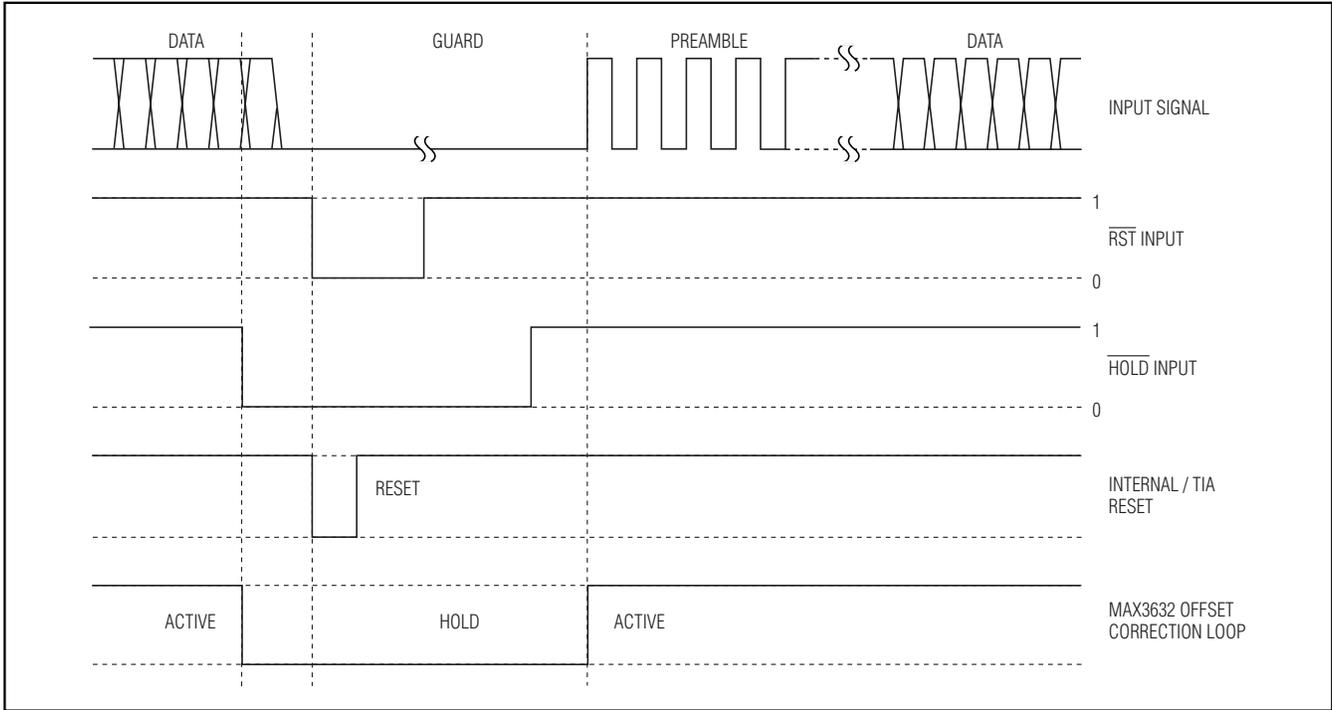
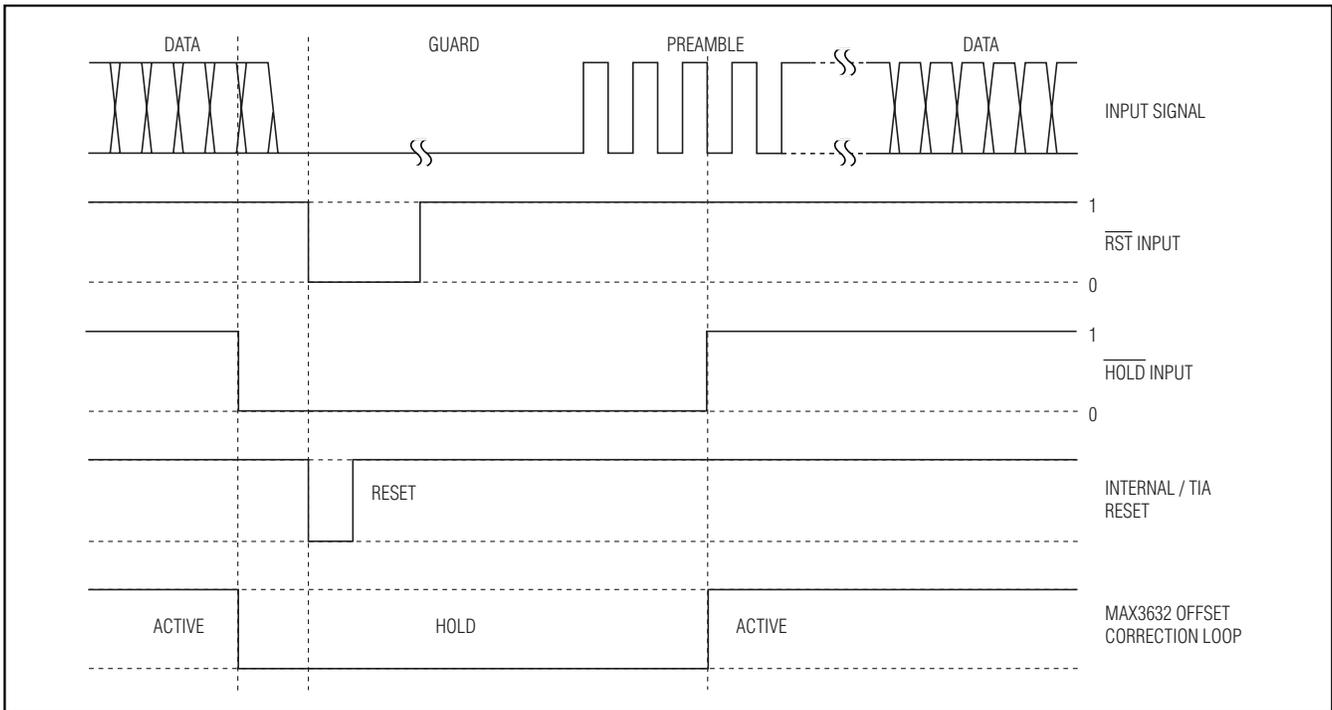

Figure 9.  $\overline{RST}$  or  $\overline{HOLD}$  Timing Method 2
Figure 10.  $\overline{RST}/\overline{HOLD}$  Timing Method 3
**Note 8:** The HOLD input transition time, 20% to 80%, must be less than 0.3ns for timing method 3. See Figure 10.
is held to a known good state between the end of a data burst and the burst-mode reset signal. When the  $\overline{HOLD}$  input is transitioned high again, prior to the end of the guard time, the transition detector restarts the offset cancellation loop at the beginning of the next burst (Figure 9). When the  $\overline{HOLD}$  input is transitioned high again after the end of the guard time, the offset correction loop restarts (Figure 10). This mode can be used to hold a valid offset for long periods during the ranging operations.